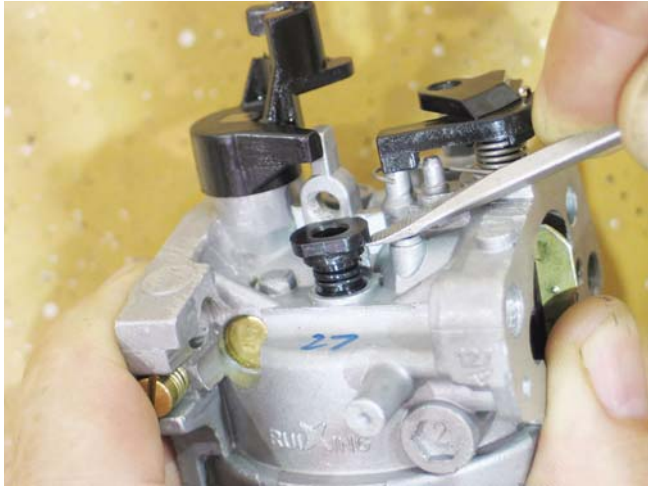

Figure 4.46
8. Carefully pry out the metering plug using a small screwdriver. See Figure 4.46.